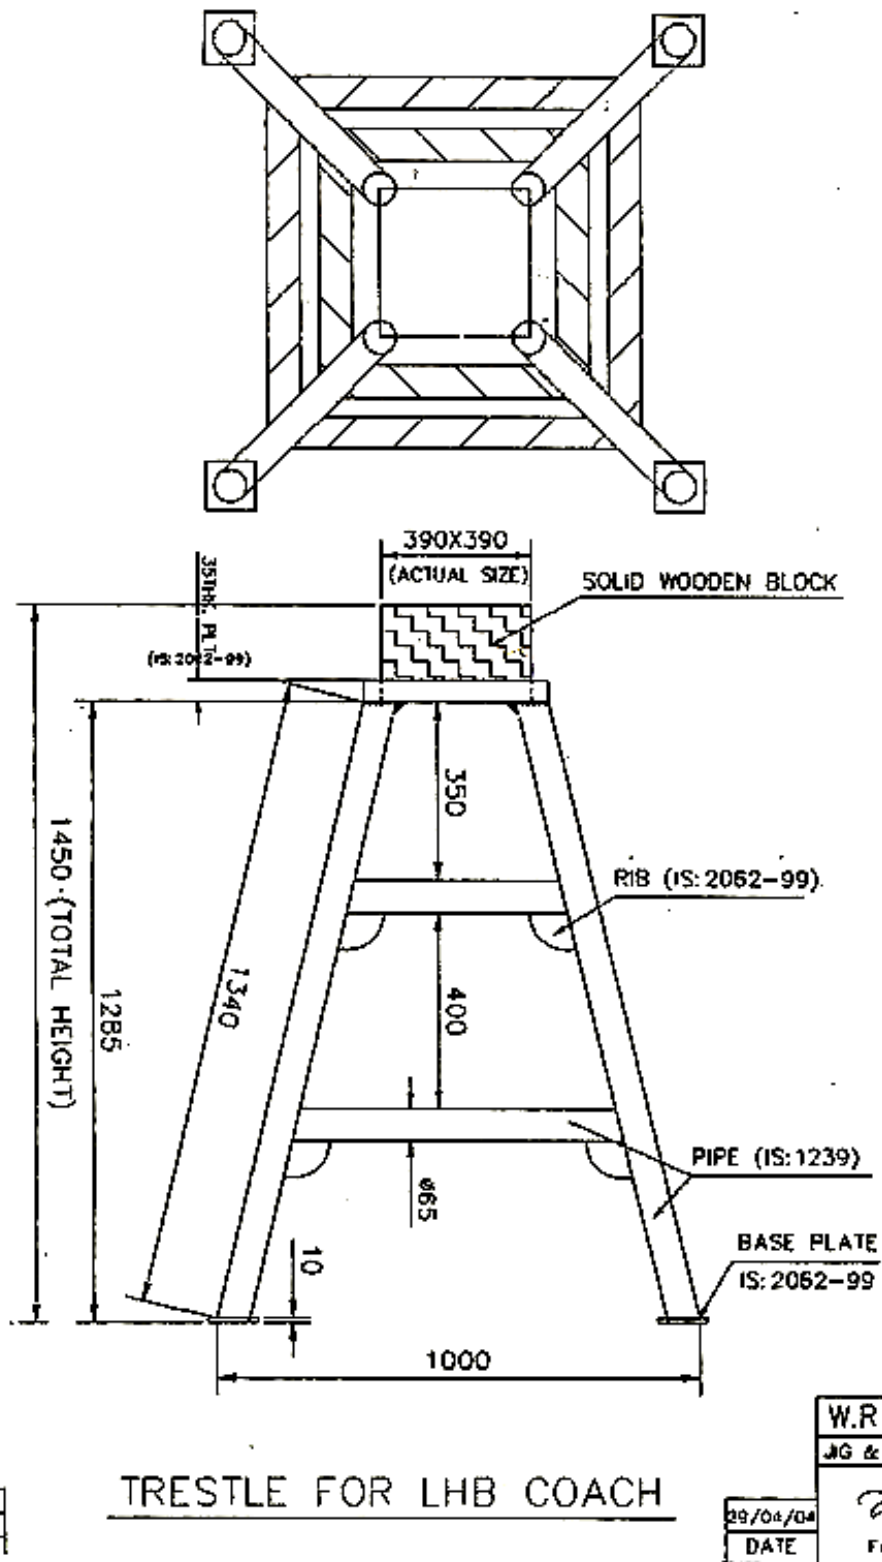

Figure: 2.4 Trestle for LHB Coach
- e) After the coach body is lifted, it should be kept on trestles. The steel trestles of the design shown in Figure 2.4 would prove useful for this purpose Lines should be protected by scotch blocks with locking arrangement and key should be kept with Engineer till the time maintenance work is carried out.